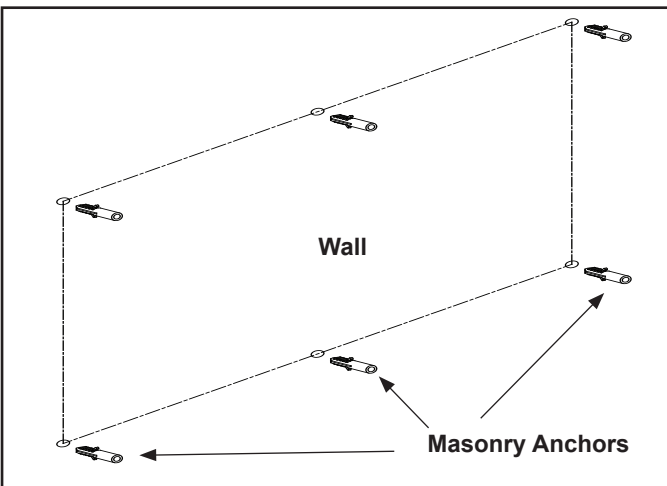

Figure 4.12 Masonry Anchor Placement
**NOTICE:** Minimum six (6) anchored screws are required for wall mounting the SF-ALL40-BK, SF-ALL48-BK, and SF-ALL60-BK. Minimum of eight (8) anchored screws are required for wall mounting the SF-ALL84-BK.
- In the marked locations, drill 5/16 in. diameter x 1-1/2 in. deep holes. See Figure 4.12.